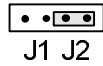

Fig. 4 Input/output module jumper position J2
- The jumper on the input/output module must be plugged onto J2 (Fig. 4).